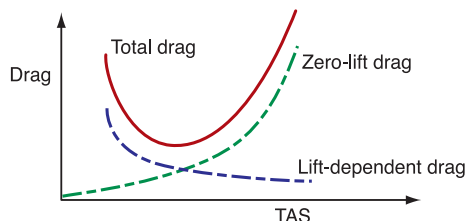

Figure 1-5 Effect of airspeed on drag (thrust required).
- 1.10 The thrust required in flight is a function of the total drag on the aircraft, the higher the drag the more thrust required. A fixed-wing aircraft has high drag at the minimum flight speed due to the drag associated with the strong vortex flow generated in flight at high lift coefficient (lift-dependent drag). As airspeed increases vortex drag reduces, but the drag associated with the air-resistance on the aircraft (zero-lift drag) increases. Consequently the drag and hence thrust required decreases from its value at the minimum flight speed until reaching a point where the drag on the aircraft becomes significant at which point the drag and thrust required increases with increasing airspeed (Figure 1-5).